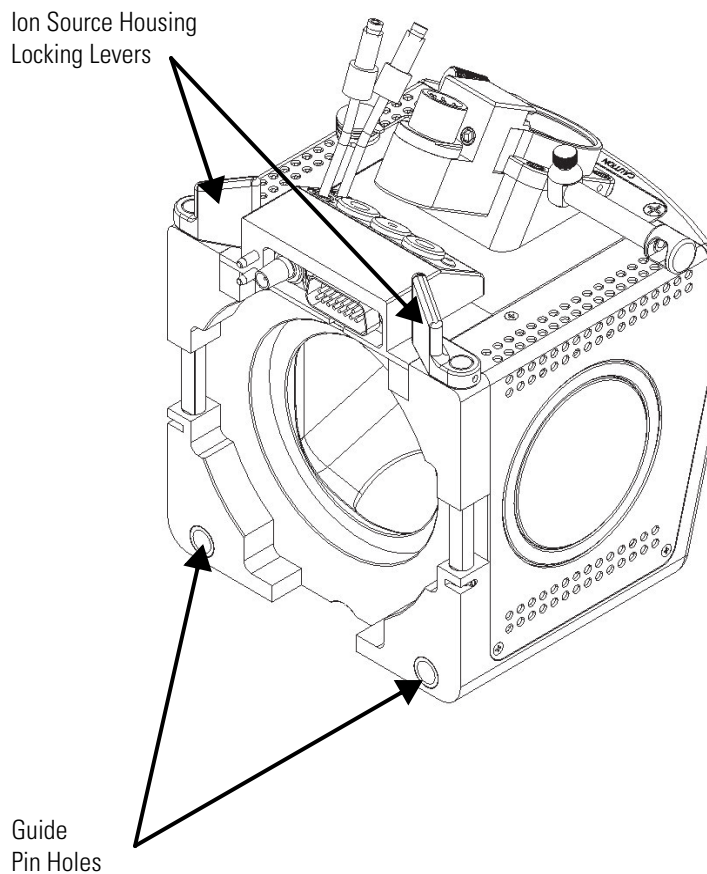
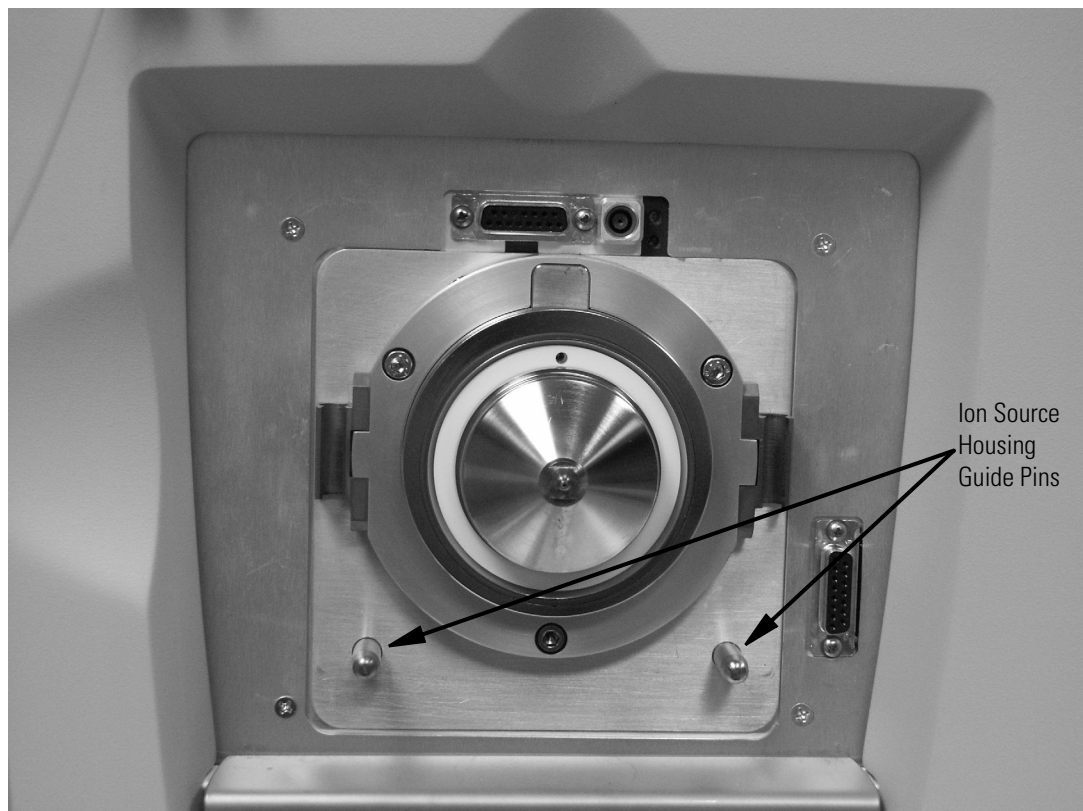

Figure 52. Rear view of the Ion Max-S ion source housing
Figure 53. Ion source mount showing ion source housing guide pins
1. Carefully align the two guide pin holes on the rear of the ion source housing with the ion source housing guide pins on the MS detector, and carefully press the ion source housing onto the ion source mount. See Figure 52 and Figure 53.